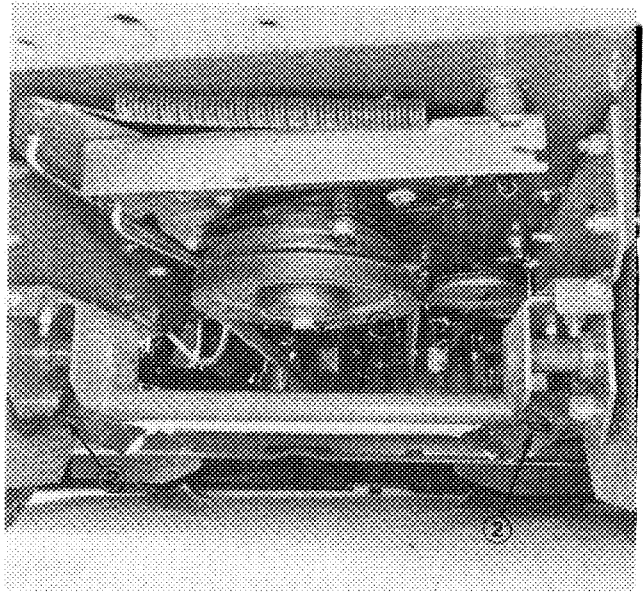

Figure 5
2. Secure rear of grass shield to outer ends of rear axle by snapping straps (Fig. 5).